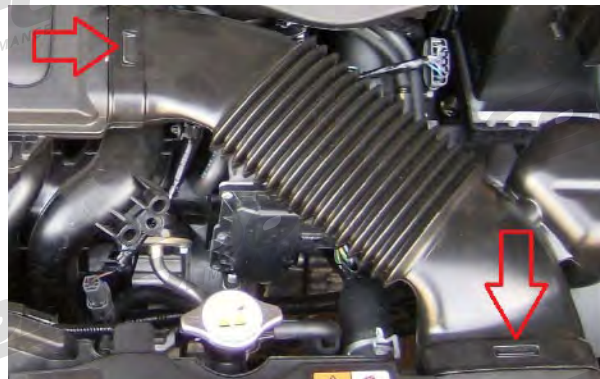

Figure 1
B) Remove the intake pipe by using a flathead screwdriver to remove the 4 clips (one clip on the top and bottom of each side of the pipe as shown in **Figure 1** on right).